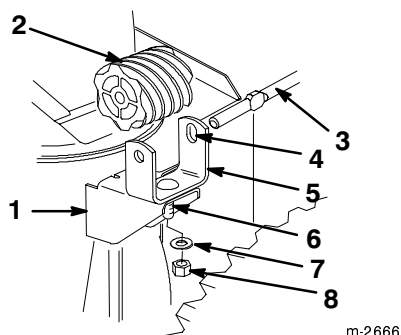

Figure 15
5. Insert the carriage screw into the worm gear bracket mounting hole (Fig. 15).
6. Position the worm gear into the bracket, align the slotted holes in the worm gear and the bracket, and insert the chute gear rod through the slotted holes in the bracket and the worm gear (Fig. 15).
7. Loosely mount the worm gear and the bracket to the mounting flange with a carriage screw, a flat washer, and a locknut (Fig. 15).